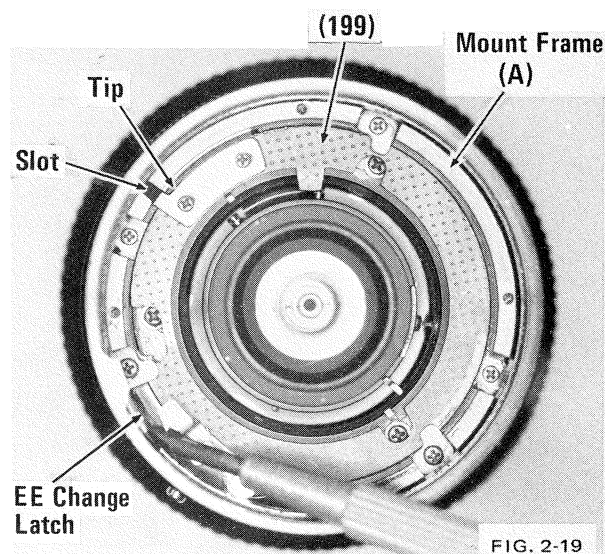

FIG. 2-19
- e) Place a spot of grease on the detent ball to hold it over the detent spring and, while holding EE change latch so that aperture ring will clear it, place aperture ring down over mount frame (A), ensuring engagement of slot in aperture ring with tip of plate on aperture cam ring (199). Fig. 2-19.